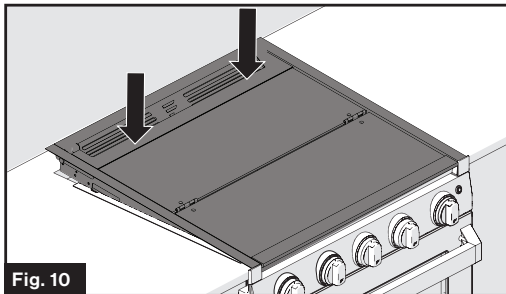
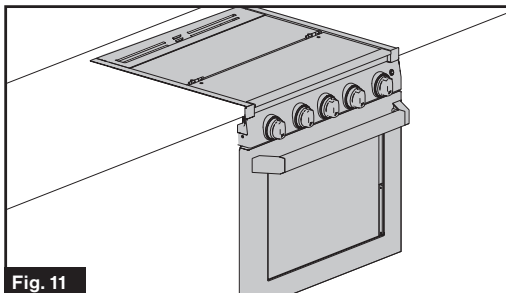

Fig. 10
Fig. 11
2. Press the backside of the top glass cover and you will hear a click noise. The top glass cover is now locked into place. (Fig. 10 and Fig. 11)